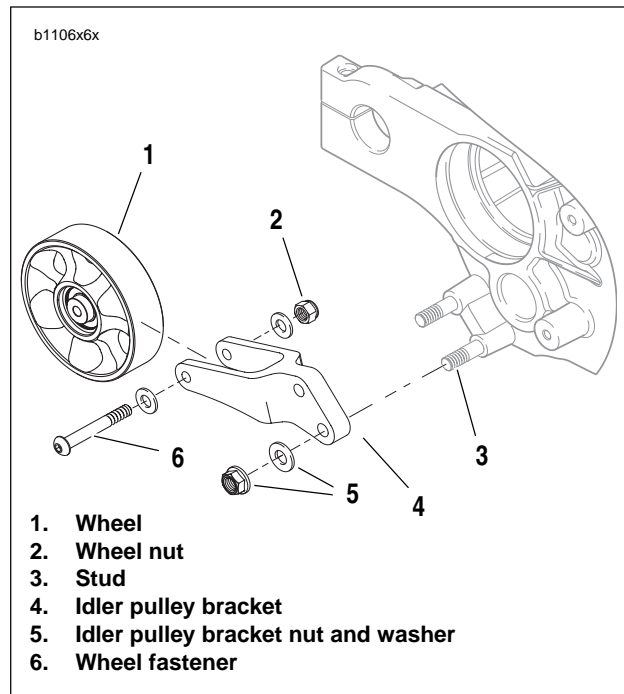

Figure 6-42. Idler Pulley Assembly
5. See Figure 6-42. Remove idler pulley bracket nuts and washers (5) from studs (3).
6. Slide idler pulley bracket (4) off studs (3).
7. See Figure 6-42. Inspect pulley by spinning wheel (1) and checking for wheel bearing wear. See INSPECTION under 1.10 DRIVE BELT.
8. If pulley wheel needs replacement, remove fastener (6), washer and nut (2) from idler pulley bracket (4) and discard wheel. Replace with **new** pulley wheel (1).
1. See Figure 6-42. Install new or existing pulley wheel (1), if removed, and tighten washer and nut (2) wheel fastener (6) to 20-23 ft-lbs (27.1-31.2 Nm).
2. Slide idler pulley bracket (4), washer and nuts (5) on to studs (3) and tighten to 33-35 ft-lbs (45-47 Nm). See DRIVE BELT INSTALLATION.